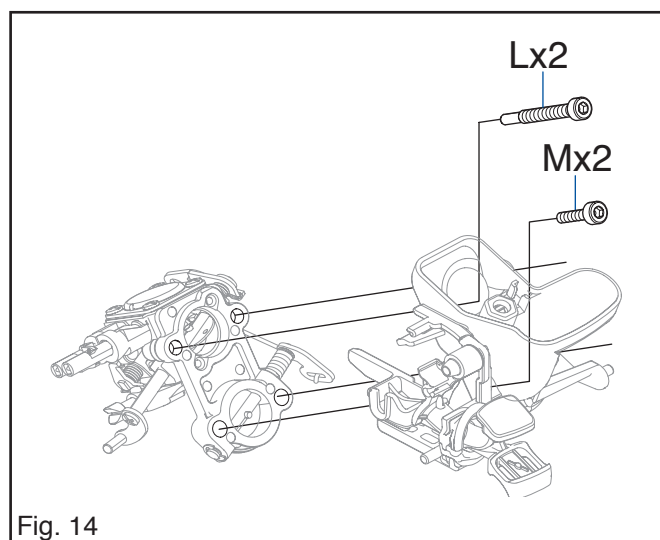
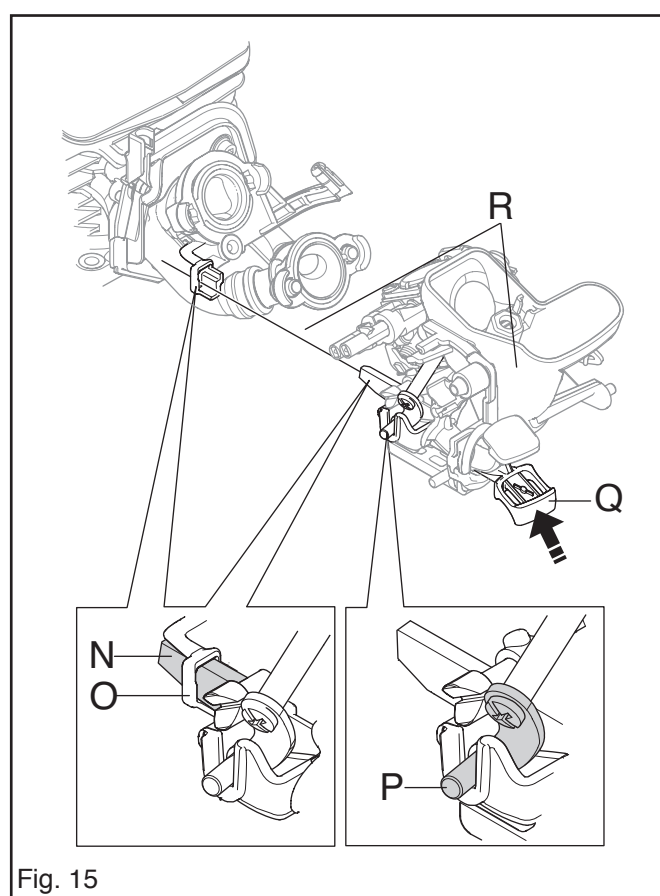

Fig. 14
Fig. 15
11. Fit the filterholder with choke on carburettor. Use long screws (L) on the upper part and short screws (M) on lower part. See fig. 14.
- Fit choke shaft (P) in notch.
- Slide choke rod (N) in guide (O).
- Push in the choke rod (Q).
- The impuls nipple should meet the impuls hose (R).
- Connect the rear rubber mount (S). See fig. 15.